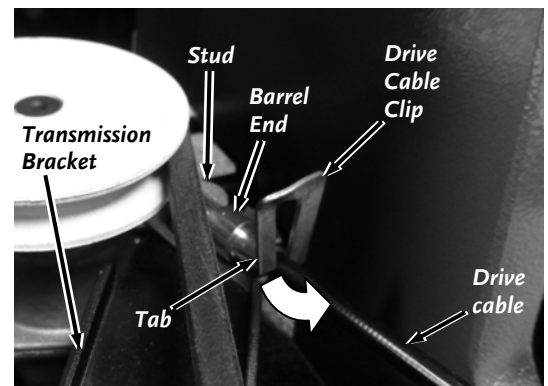

Figure 34
7. Bend the Tab of the Drive Cable Clip up above the Cable using Pliers (**Figure 34**). Rotate the Clip to the side and remove the Barrel end of the Cable from the Stud.
13. Insert the Barrel end of the Cable into the hole of the Transmission Stud with the flat portion of the Barrel facing down (**Figure 34**).